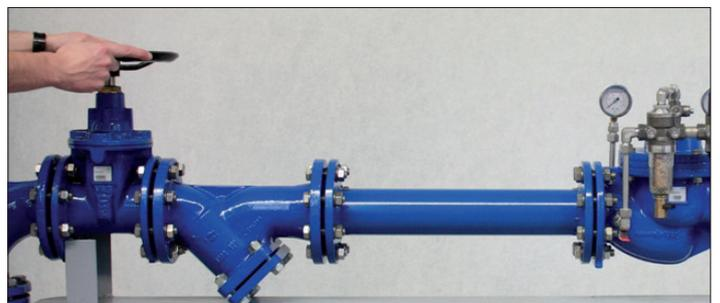

Figure 25: Partial opening of the upstream pressure valve
3. The float valve is filled by slow and careful opening of the upstream pressure valve (e.g. a gate valve, see Figure 25) with 1 – 3 turns.